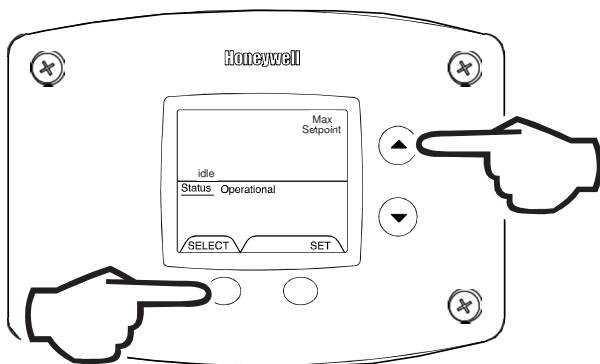

Fig. 43
- 30 Seconds after the last button press, the Water Heater Display will go back to 'User Mode'. It will read 'Max Setpoint' without showing a temperature value if the temperature setpoint is at the maximum setting. The Water Heater Display can be set back to the 'User Mode' immediately by pressing both the 'Temperature Up' and 'Select' buttons together for 3 seconds (Fig. 43).